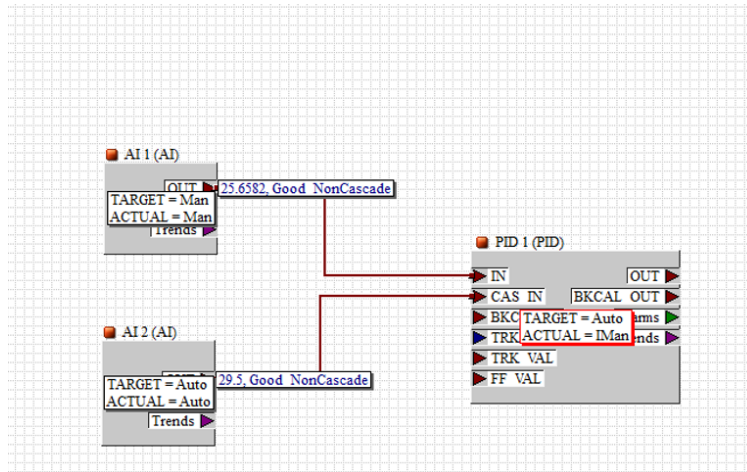

Figure 3.17 Function block configuration monitoring interface
(4) Monitor the output value and status of the function block through the configuration interface, click the "Monitoring Mode" button on the NI configuration interface, select the input and output parameters to be monitored according to the prompt interface, and click the "Start Monitoring" button to start monitoring. See Figure 3.17 below It is the configuration monitoring interface.